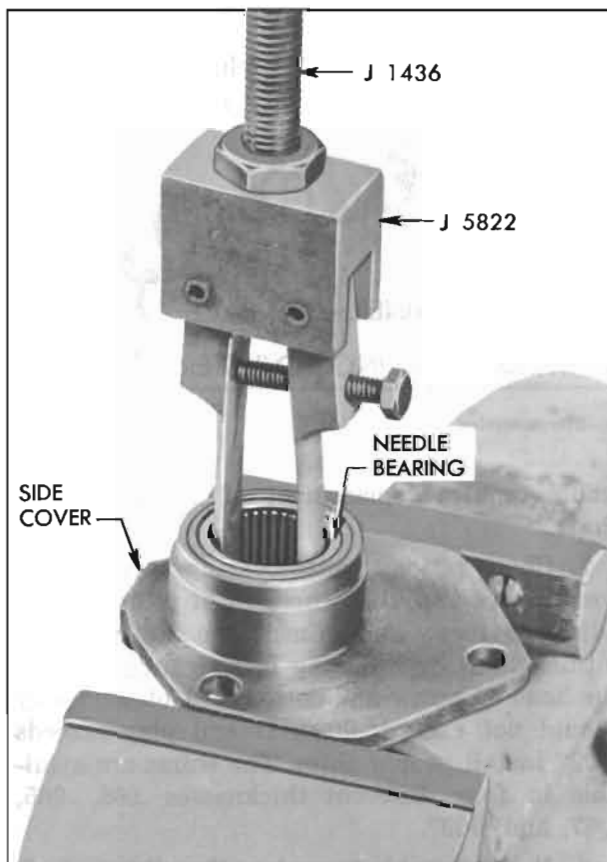

Figure 8-8—Removal of Needle Bearing
4. Inspect needle bearings in side cover and housing for wear or other damage. If replacement is necessary remove the needle bearings using bearing puller J-5822. See figure 8-8.